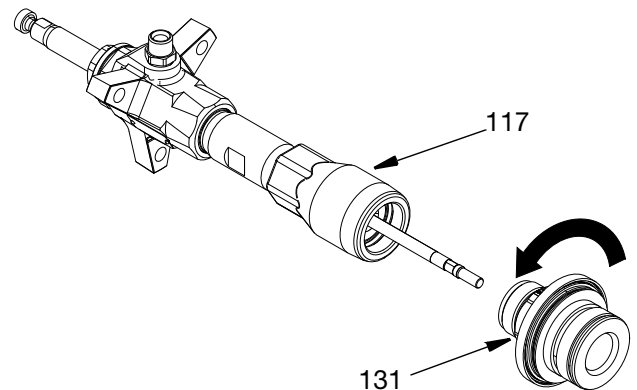

FIG. 8
5. Use an adjustable wrench on the hex of the intake cylinder (131) and unscrew it from the valve housing (117). See FIG. 8.